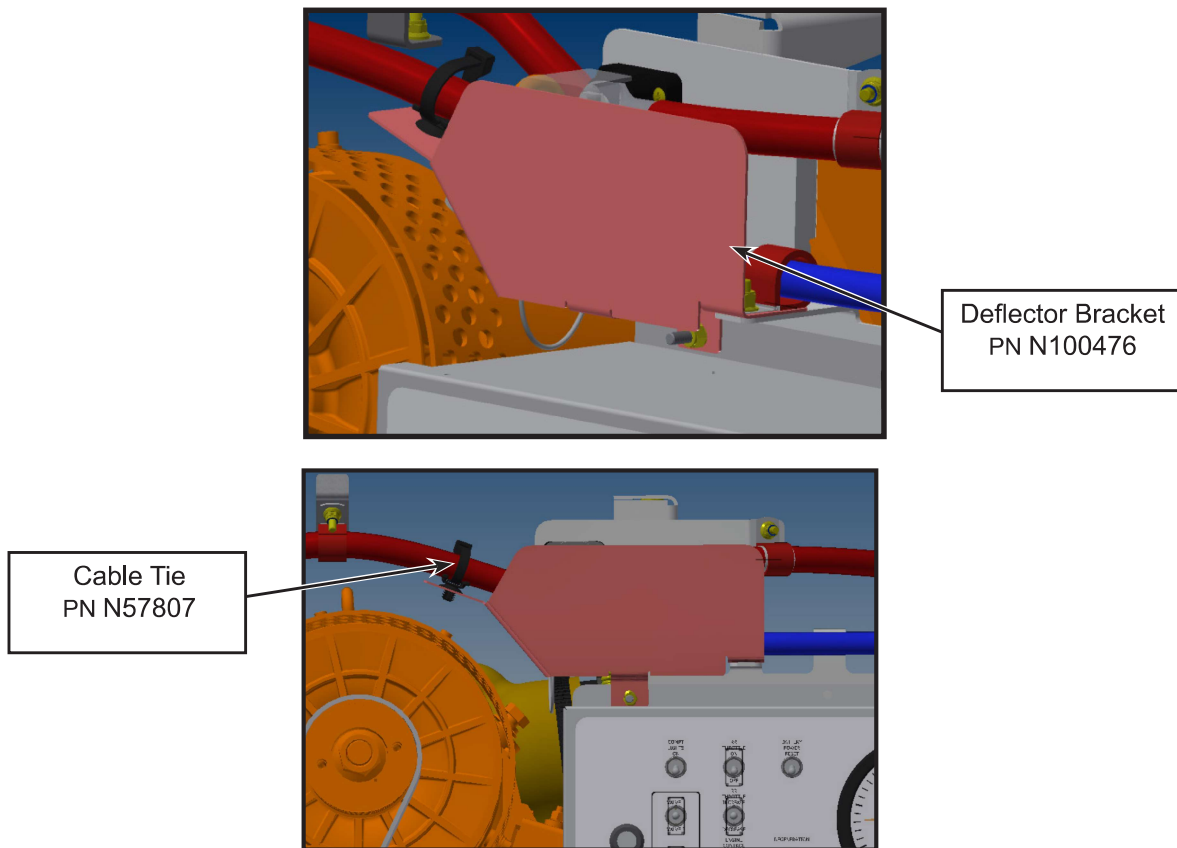

Figure 14 - Installation of the Deflector Bracket
- 1.29. Install the new deflector bracket PN N100476 on existing studs (see figure 14).
- 1.32. Install the cable tie mount PN N57807 on the deflector bracket hole in order to secure the alternator cable (see figure 14).